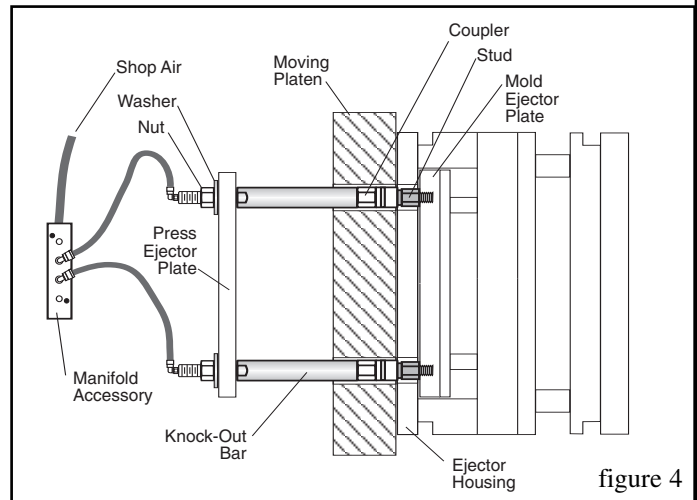

figure 4
4. Install washer, nut and pneumatic connector per figure 4. Use a thread-locking compound to prevent movement during use.